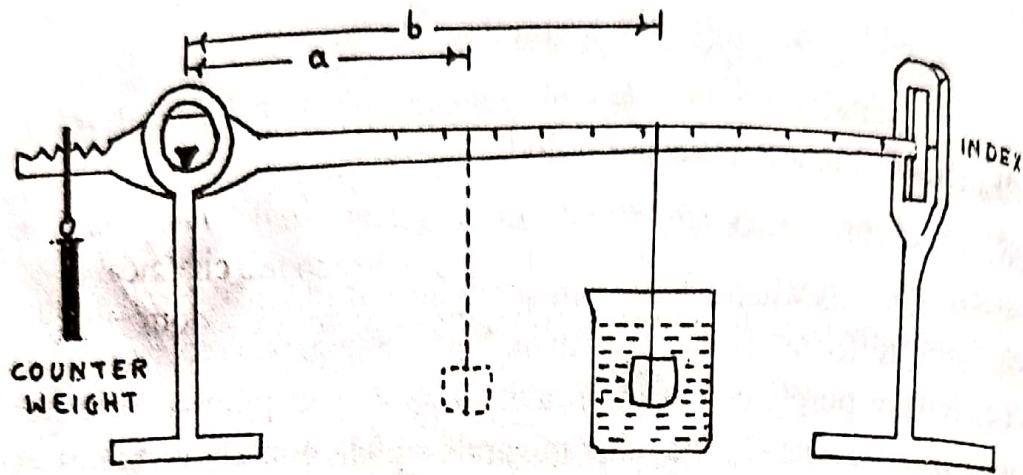

Fig. 3.2. Walker's steelyard balance.
**Walker's Steel Yard.** Walker's steel yard is an instrument which is mainly used for determining the specific gravity of comparatively large mineral specimens. This instrument consists of a graduated long horizontal beam of steel which is supported near one end on a knife edge as shown in Fig. 3.2. At the end of the longer arm, a vertical post is placed. It bears an index mark which helps in aligning the beam in the horizontal position.